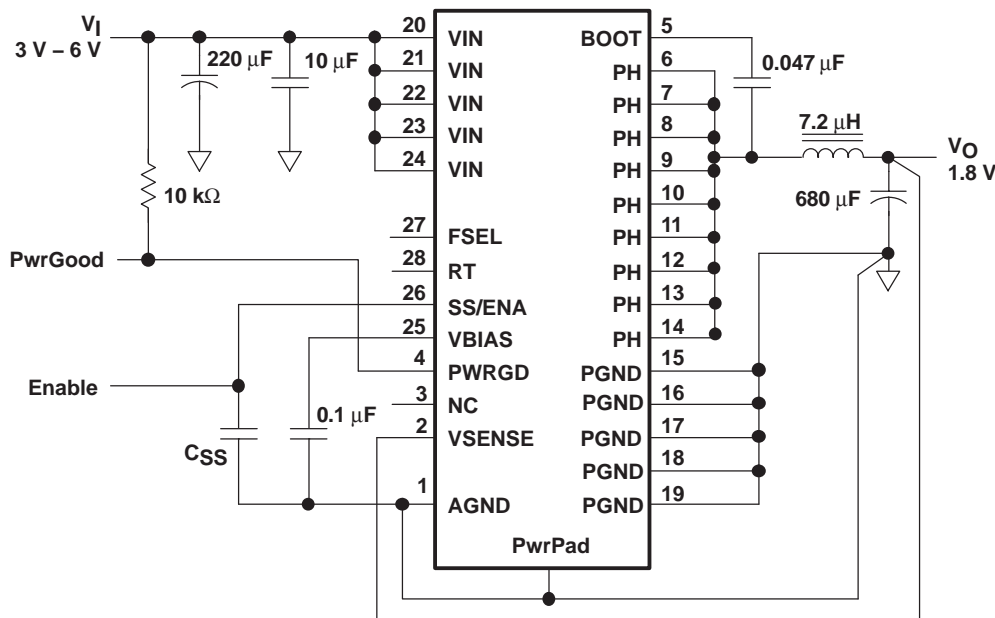

Figure 10. Application Circuit
(1) Specified by design
(2) Static resistive loads only
(3) Tested using circuit in Figure 10.
Figure 10 shows the schematic diagram for a typical TPS54614 application. The TPS54614 (U1) can provide greater than 6 A of output current at a nominal output